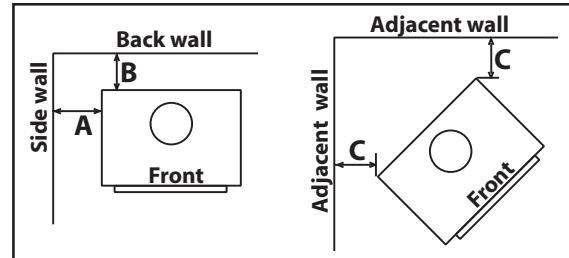

Figure 15: Clearances to combustibles.
- Remove the stove top and carefully lay the unit down on its back and install the four steel legs using the supplied hardware and a 3/8" wrench or socket (see Figure 15). Stand the stove up.